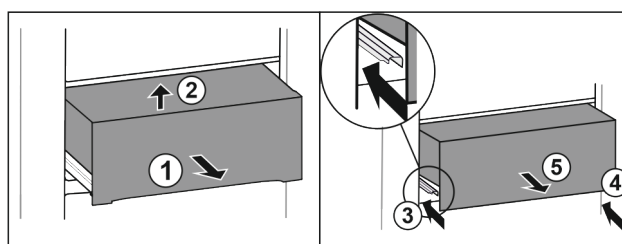

Fig. 30
- Pull out drawer half-way. Fig. 30 (1)
- Lift up drawer at the front. Fig. 30 (2)
- Insert left rail. Fig. 30 (3)
- Insert right rail. Fig. 30 (4)
- Remove drawer to the front. Fig. 30 (5)